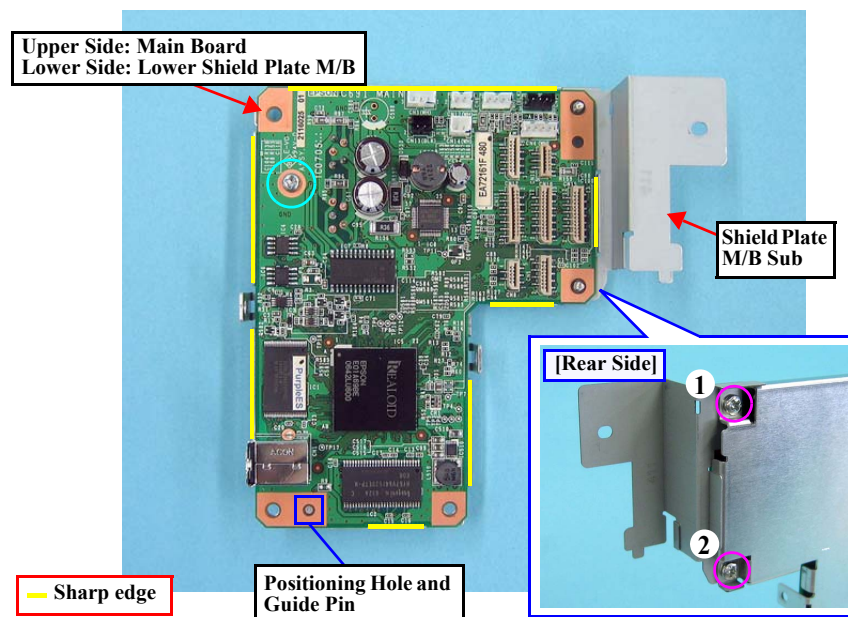

Figure 4-22. Removing the Main Board
- When installing the Main Board, match the positioning hole with the guide pin shown in Fig.4-22.
- Tighten the screws in the order given in Fig.4-21 (p.66), Fig.4-22.